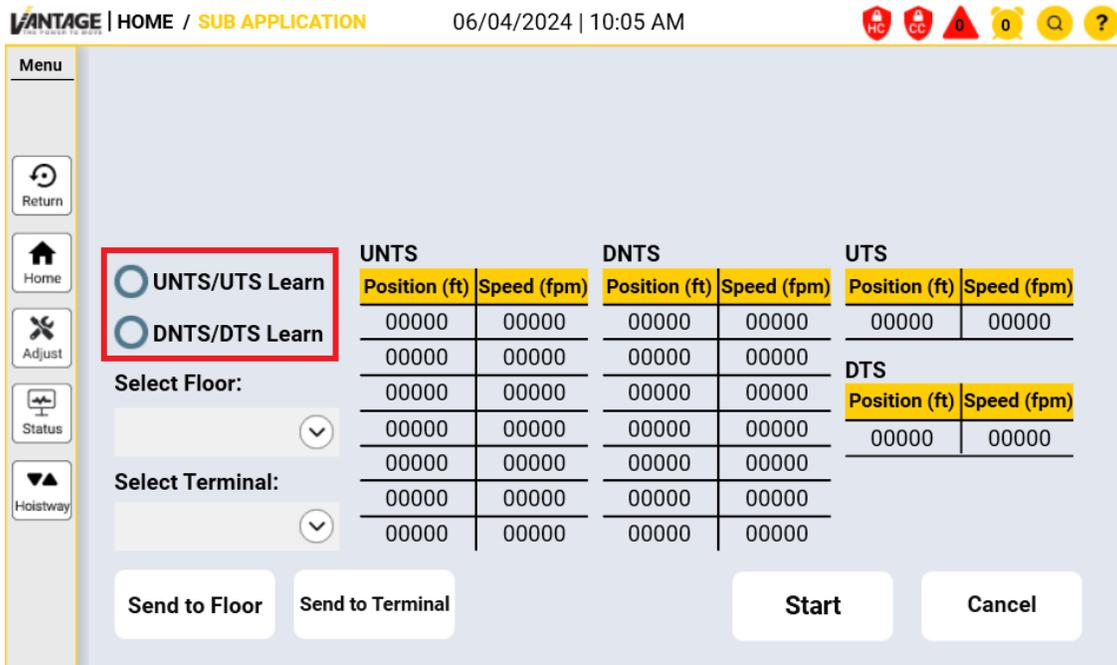

Figure 37: Select one of the highlighted options
- Select UNTS/UETS or DNTS/DETS Learn by selecting one of the options shown in figure 37.